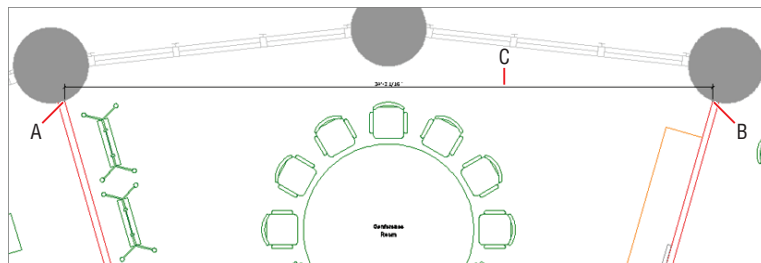

FIGURE 13.7 Drawing a linear dimension
4. Click the Linear dimension tool in the Annotate panel. Click points A, B, and C, as shown in Figure 13.7.